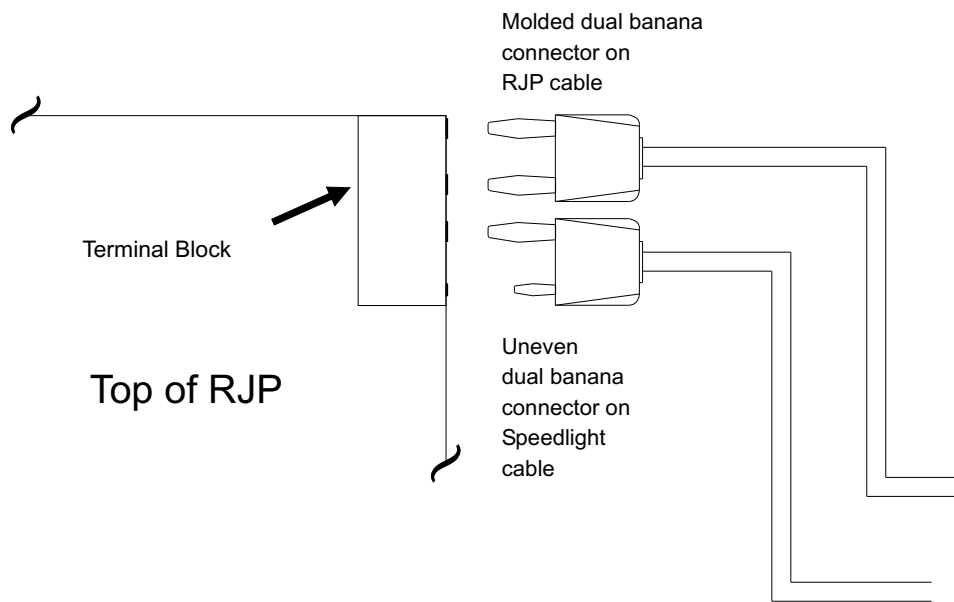

Figure 3: Cable connections to RJP with Speedlights
**RJP cable:** Plug the molded connector end of the cable into the terminal block at the rear corner of the RJP, as shown in Figure 3. Plug the combination (female-to-male) stackable open-ended dual banana plug into the Button A/RJP connector on the connection hub under the starting block. Insert the Button A backup button cable into the female side of the stackable combination banana plug from the RJP, as shown in Figure 4. The RJP times and the backup button times will both be recorded.
**Speedlight cable:** Plug the uneven dual banana connector into the terminal block at the rear corner of the RJP, as shown in Figure 3. Plug the DIN connector into the Speedlight connector on the connection hub under the starting block.
**RJP cable:** Plug the molded connector end of the cable into the terminal block at the rear corner of the RJP, as shown in Figure 3. Plug the combination (female-to-male) stackable open-ended dual banana plug into the Button A/RJP connector on the deck plate or cable harness. Insert the Button A backup button cable into the female side of the stackable combination banana plug from the RJP, as shown in
**Speedlight cable:** Plug the uneven dual banana connector into the terminal block at the rear corner of the RJP, as shown in Figure 3. Plug the DIN connector into the Speedlight cable harness connector for that lane.